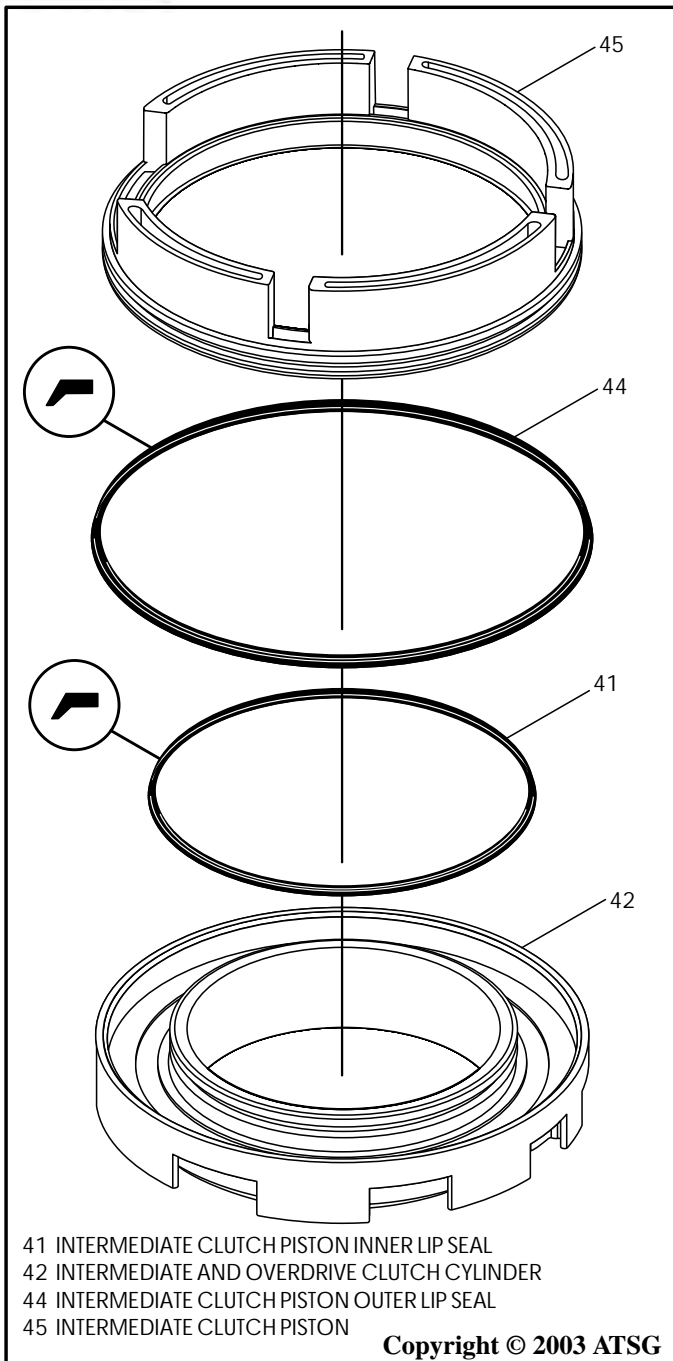

Figure 137
5. Place the intermediate/overdrive cylinder on a flat work surface, in the direction shown in Figure 137.
6. Install a new intermediate clutch piston inner lip seal into the groove in cylinder, with the lip facing the direction shown in Figure 137.
7. Install a new intermediate clutch piston outer lip seal into the groove in piston, with the lip facing the direction shown in Figure 137.
8. Lubricate both lip seals with Trans-Jel®, and install piston assembly into cylinder, as shown in Figure 137.